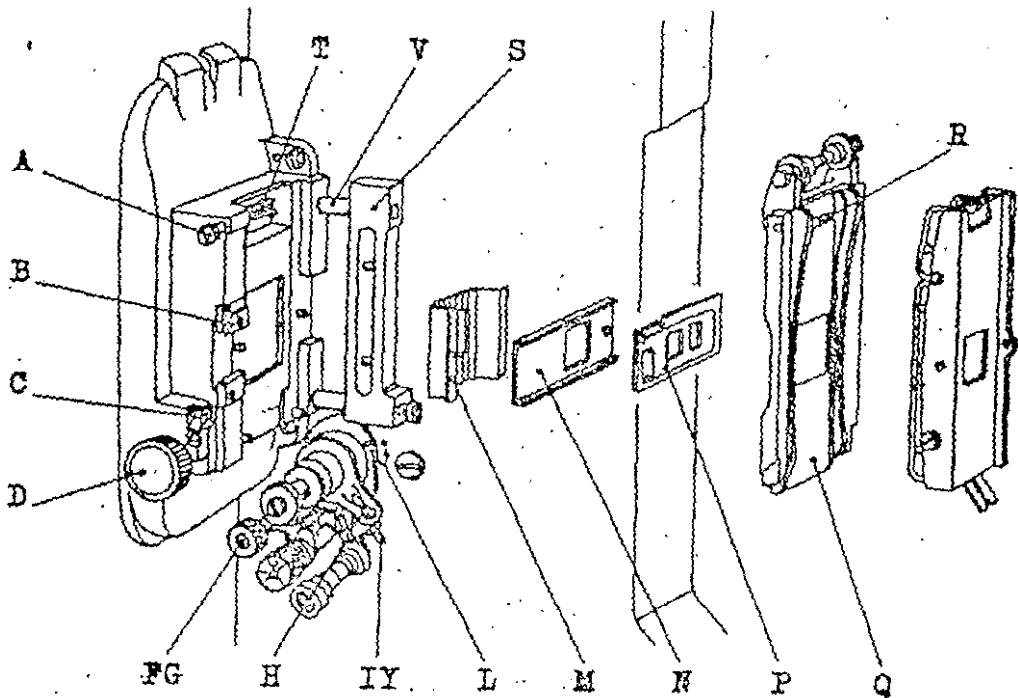

FIG. 15
- FIG. 15 TOP AND BOTTOM FIRETRAPS (from serial N° 84501)